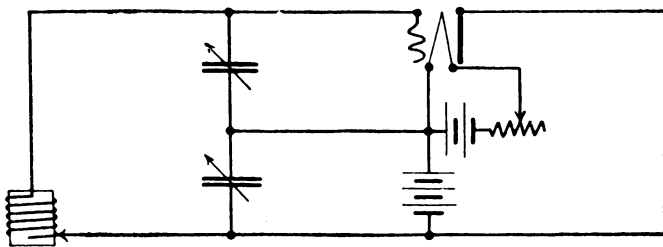

Fig. 20.—Capacity Coupling is Used in this Oscillating Circuit.
A. Separated tuning condenser method. In this circuit Fig. 20, two separate tuning condensers are used, in